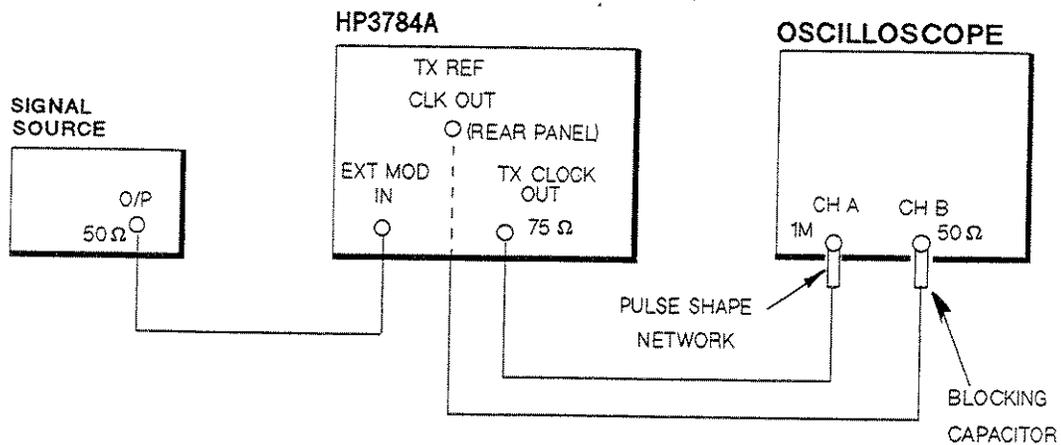

Figure 8-18 External Modulation Test Set-up 2 (Clock Output)
12. Now connect the equipment as shown in Figure 8-18.